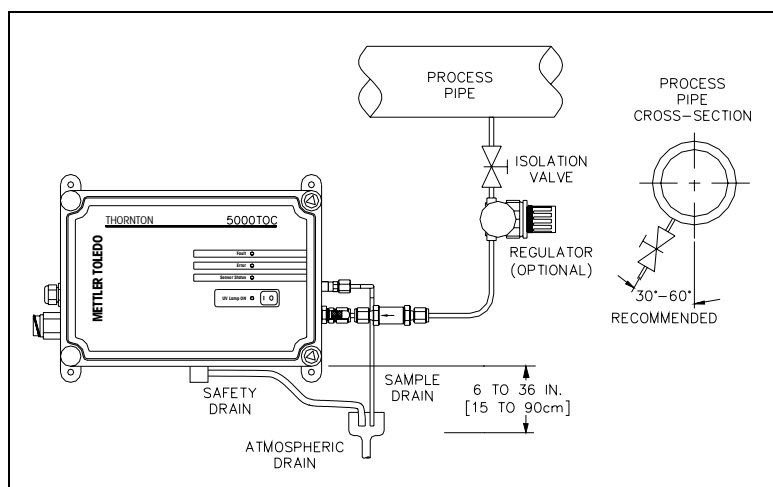

Figure 7. Location of High Pressure Regulator
2. Install the High Pressure Regulator downstream of the process isolation valve. See Figure 7.